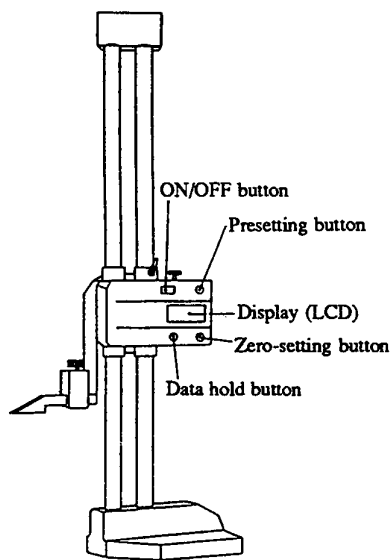

Fig. 14 Digimatic Height Gage HDS
5.3.3 Digimatic Height Gage HDS (Fig. 14)